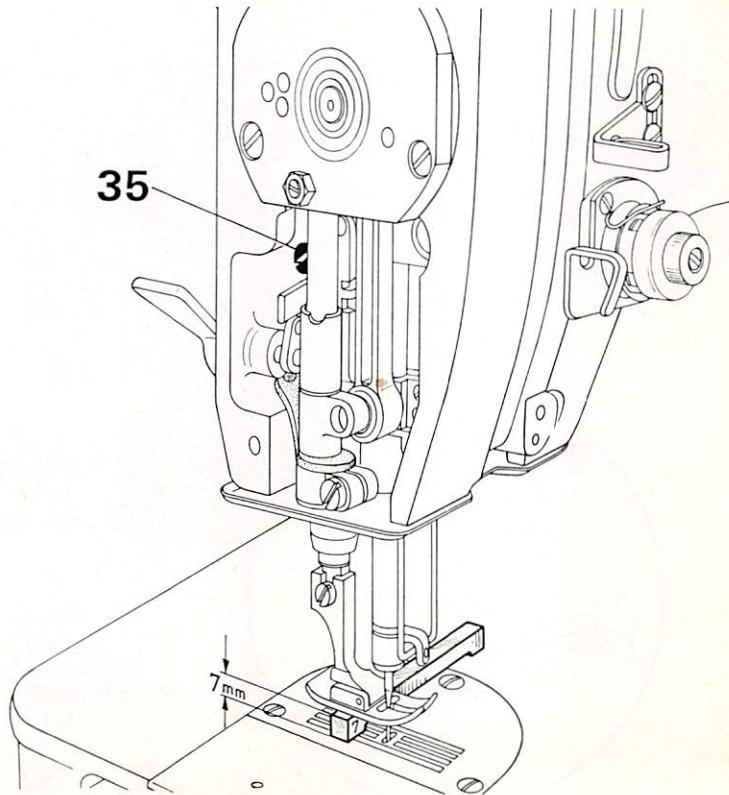

Fig. 16
- 13. Setting the Presser Foot at the Correct Height (Fig. 16)**